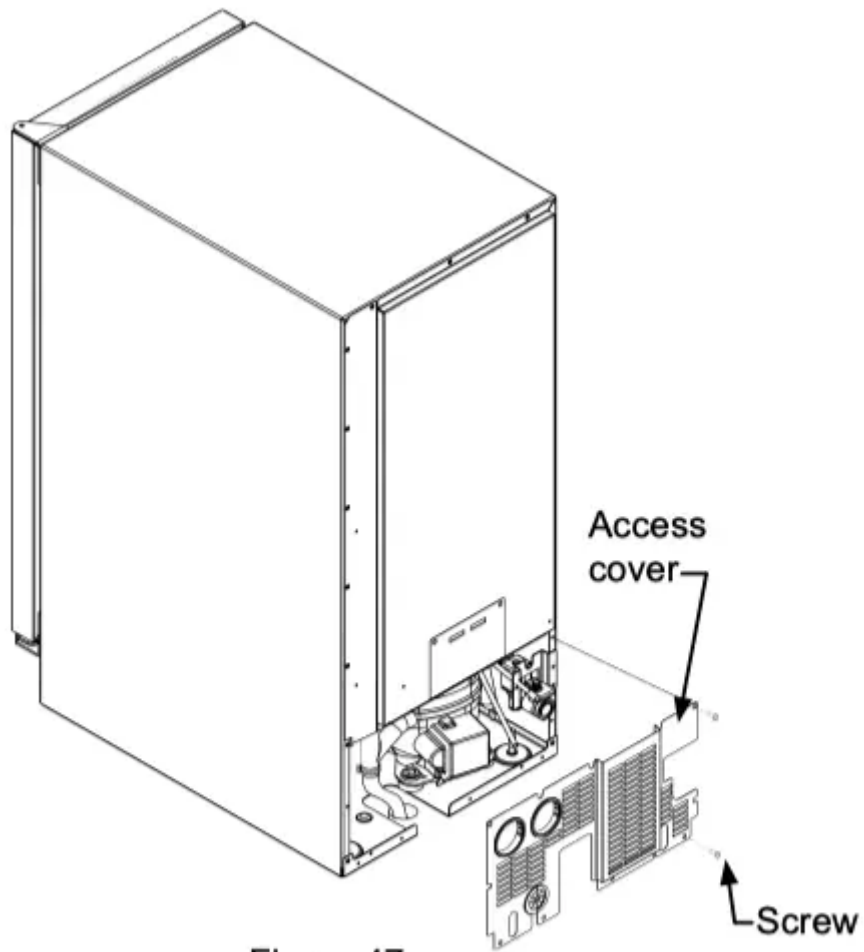

Figure 47
6. Remove the access cover from the rear of the ice machine. (See Figure 47).